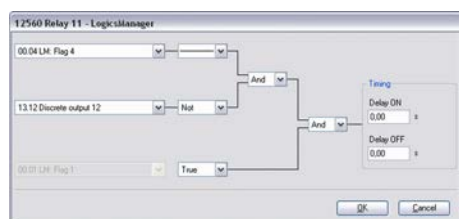

Fig. 194: LogicsManager function "Relay 11"
1. Configure the LogicsManager function "Relay 11" as shown in (Fig. 194).